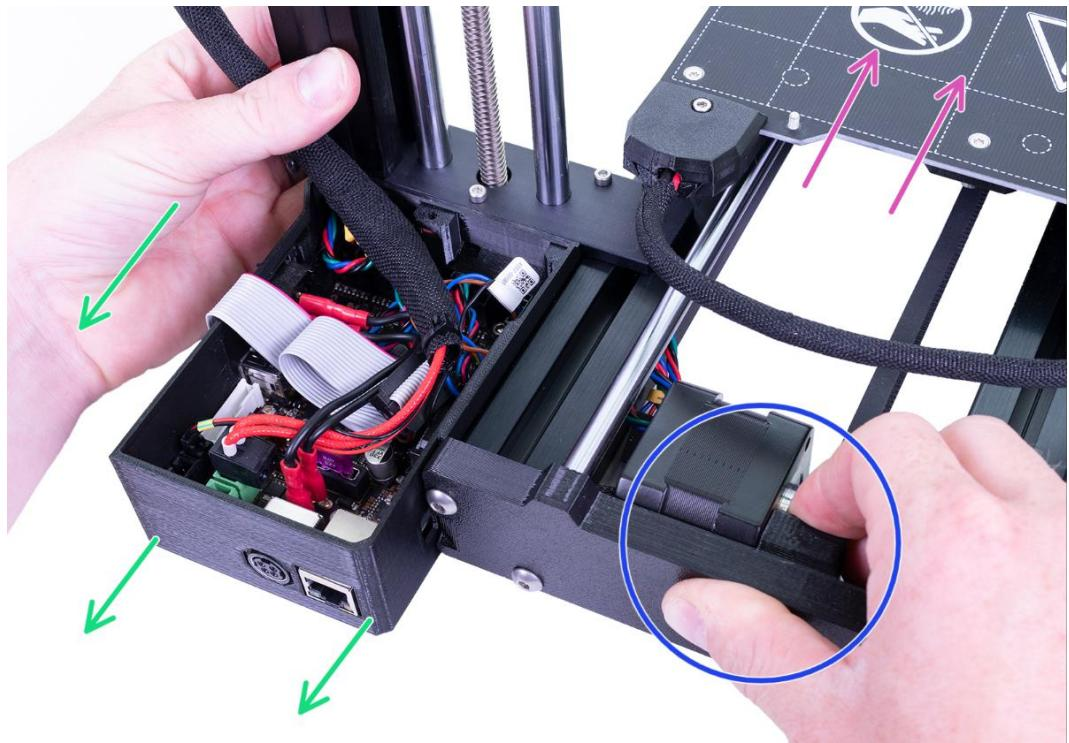

Figure 5.1.16
- A:** As shown in Figure 5.1.16. Rotate the back of the printer towards you and push the heatbed all the way to the "front".
- B:** As shown in Figure 5.1.16. Hold the Y-axis assembly.
- C:** As shown in Figure 5.1.16. Move the XZ-axis assembly to the back.